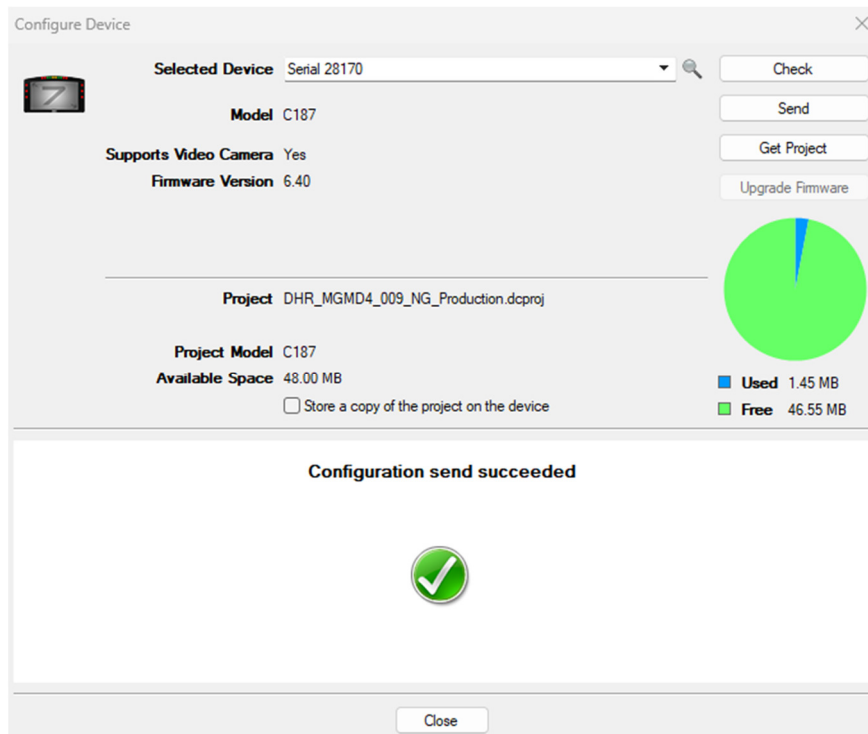

Figure 4.47: Display Creator – configure device successful.
10. When it is finished you will see the confirmation as shown in Figure 4.47.